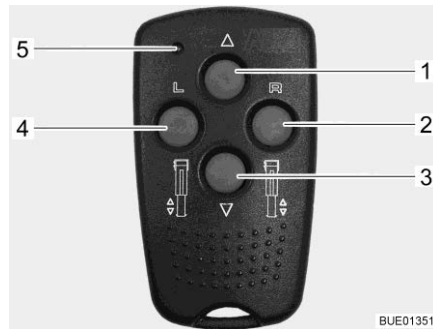

Fig. 50 Remote control for electrical steady legs
- Preselection: Steady leg left (Fig. 50,4)
- Preselection: Steady leg right (Fig. 50,2)
- Retracting steady leg (Fig. 50,1)
- Extending steady leg (Fig. 50,3)
Each time a button is pressed, the control LED (Fig. 50,5) flashes.
- Press and hold the preselection button for the steady leg side (Fig. 50,2 or 4) for approx. 1 second.
- Within 2 seconds, press the "Extend steady leg" button (Fig. 50,3) and hold it until the support leg (Fig. 52,4) is touching the ground.
- Within 2 seconds, press the "Retract steady leg" button (Fig. 50,1) and hold it until the support leg (Fig. 52,4) is fully retracted. Once the support leg is fully retracted, a control signal sounds.